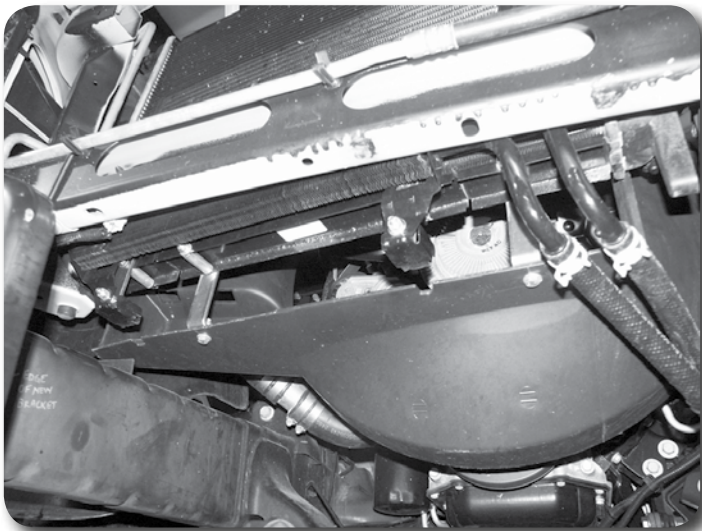

Figure 22
54. Attach the power steering cooler brackets to the front bottom radiator flange through the remaining existing holes (to the passenger's side of each fan shroud mount). Place a ½" OD x 1-9/16" long crush sleeve between the flanges as before and fasten with the original cooler mounting bolts/nuts **Figure 22**. The bolt should run front to rear. Make sure the brackets are hanging straight down and tighten the hardware to 10-15 ft-lbs.